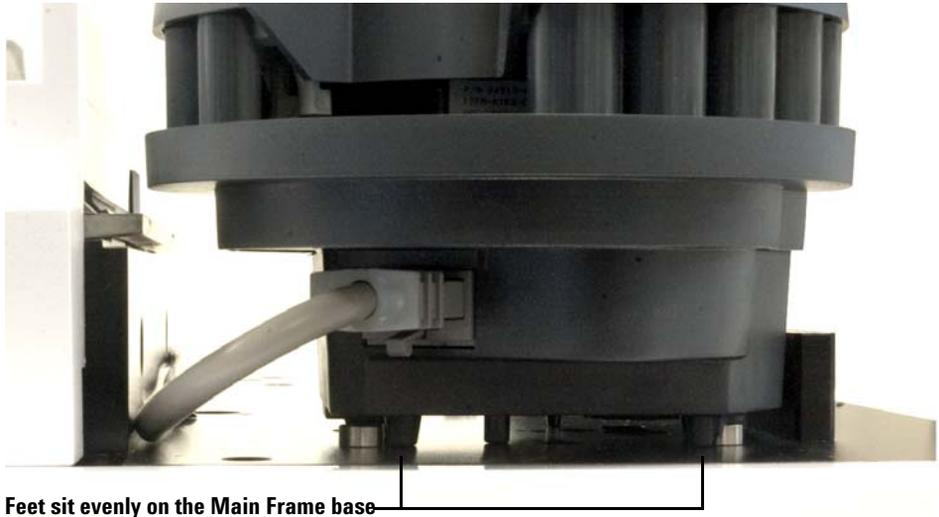

Figure 20 Installing the front Tower on the Main Frame.
- 3 With the communication cable installed, lower the front Tower onto the front position on the Main Frame and mounting post. Be sure to properly align the Tower so it sits evenly on the Main Frame base (Figure 20).
- 7 With the communication cable installed, lower the back Tower onto the back position on the Main Frame and mounting post. Be sure to properly align the Tower so it sits evenly on the Main Frame base (Figure 20).